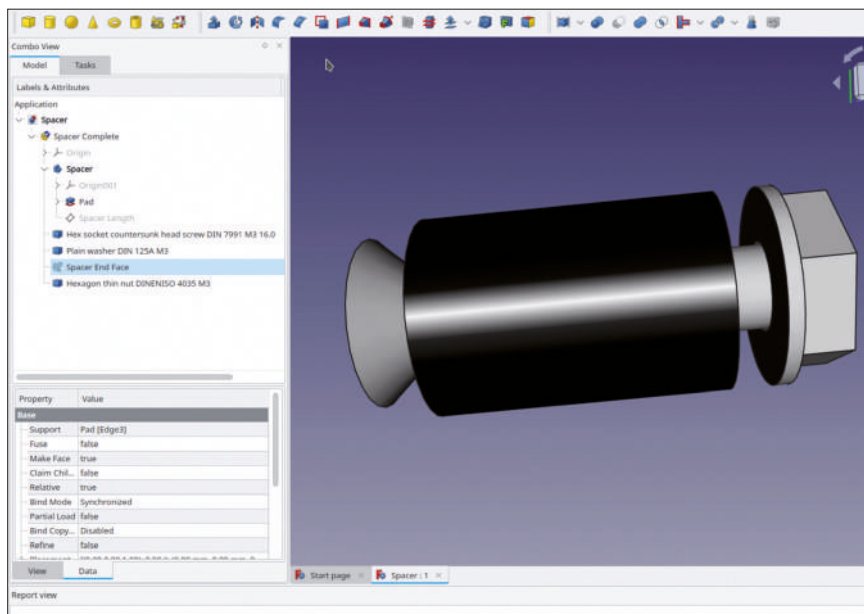

Figure 4-31
24. In the final step, set the length of the spacer to 10 mm again and hide the Sub-ShapeBinder 'Spacer End Face' by selecting it in the 3D view and pressing the SPACE key. Now, the spacer is ready for use (Figure 4-31).